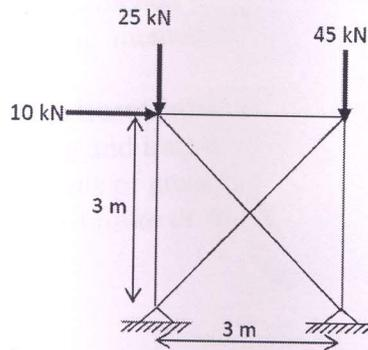

Fig.10
11. Analyse the plane truss supported and loaded as shown in Fig.10. Assume AE is constant. [10]